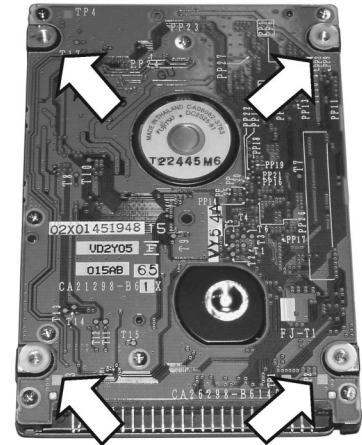

Fig. M3-6: Place nylon spacers on HDD screw-holes
1. Place the mirrored (secondary) hard drive on the work surface with the printed circuit board up and the connector facing you (as shown in Fig. M3-6, right). Place a nylon spacer (washer) over each of the threaded mounting holes.